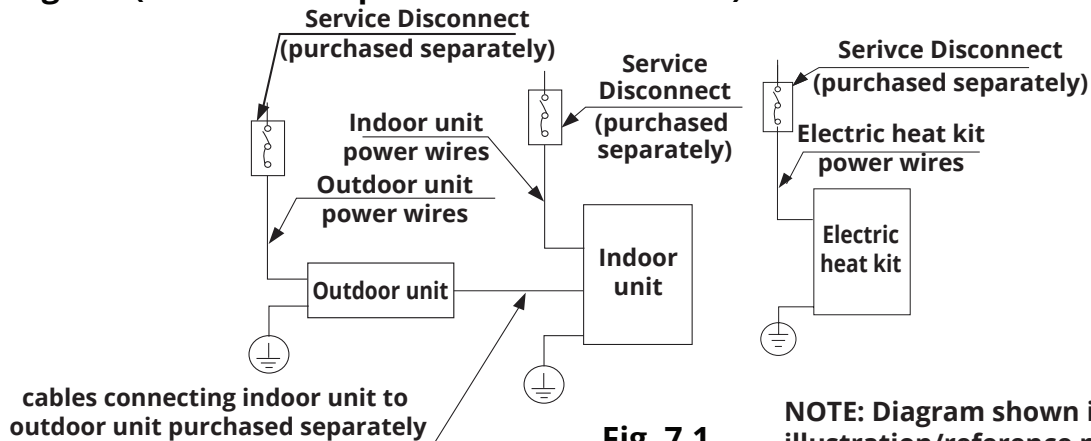

Fig. 7.1
- When the maximum current of the air conditioner is more than 16A, a service disconnect with protective device shall be used (purchased separately). Refer to Fig. 7.1.